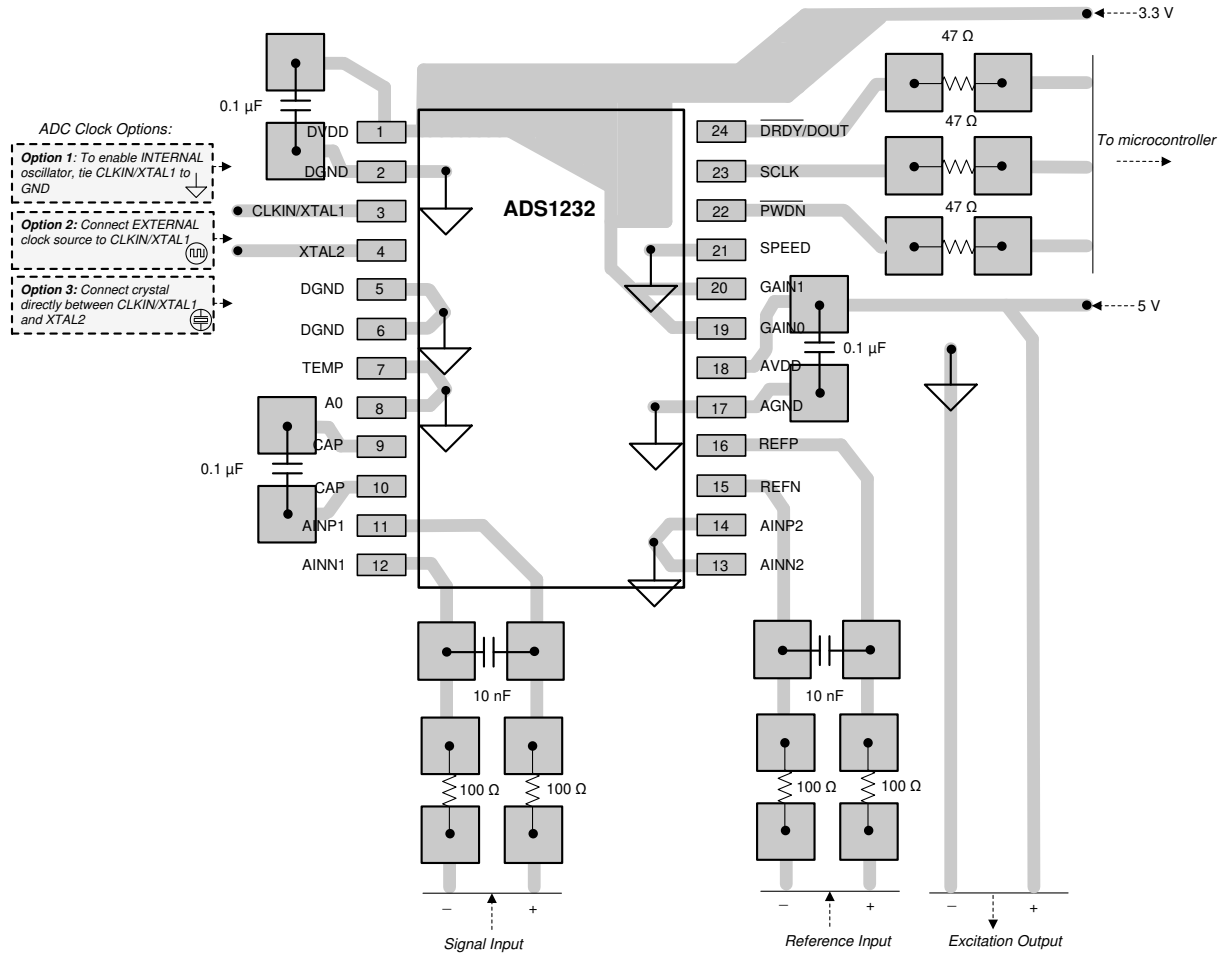

图 11-1. ADS1232 Layout Example
**图 11-1** illustrates a PCB layout example. Separate 5-V analog and a 3.3-V digital supplies are shown. The ADC configuration is through hard-tie of the control pins as shown in **表 11-1**.